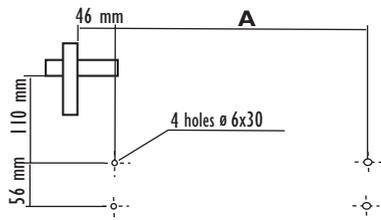
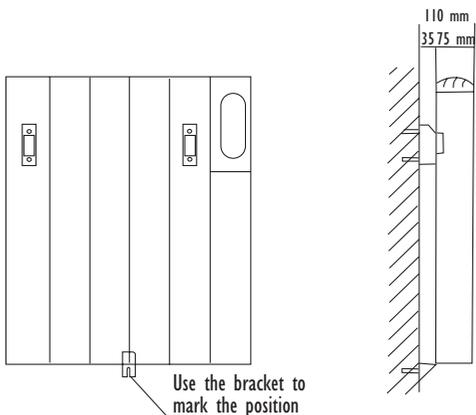

Figure 3
Figure 4
- Mark the top fixing holes as shown in figure 3. Drill 6x30 dia. holes. Position the anchors and fix the top brackets. Hang the appliance, make sure it is level and tighten the brackets firmly. Now position the bottom bracket in one of the central grooves at the back, mark the position, drill the holes, position the anchors and fix the bracket (figure 4).